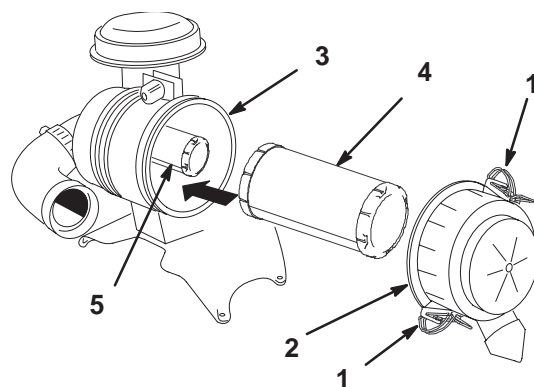

Figure 32
2. Release the latches on the air cleaner and pull the air cleaner cover off of the air cleaner body (Fig. 32).
4. Gently slide the primary filter out of the air cleaner body (Fig. 32). Avoid knocking the filter into the side of the body. Do not remove the safety filter, unless you intend to replace it as well.
2. If the safety filter is being replaced, carefully slide it into the filter body (Fig. 32).
3. Carefully slide the primary filter over the safety filter (Fig. 32). Ensure that it is fully seated by pushing on the outer rim of the filter while installing it.
4. Install the air cleaner cover with the side indicated as **UP** facing up and secure the latches (Fig. 32).